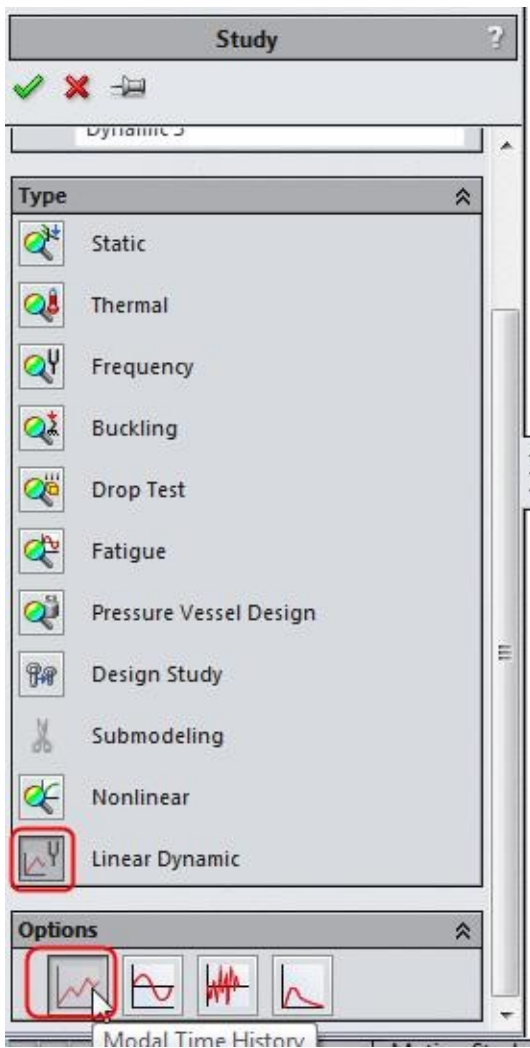

Figure-10. Modal Time History button
- Click on the **Linear Dynamic** button and then on the **Modal Time History** button from the **Options** rollout; refer to Figure-10.